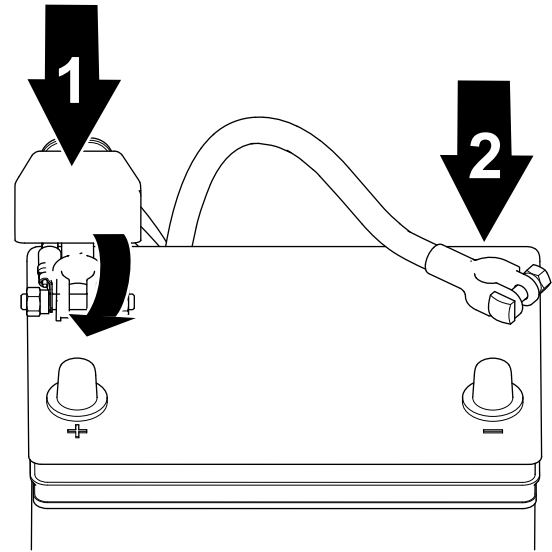

Figure 48
2. Connect the negative cable to the battery and tighten the battery-clamp nut (Figure 48).
1. Connect the positive cable to the battery and tighten the battery-clamp nut (Figure 48).